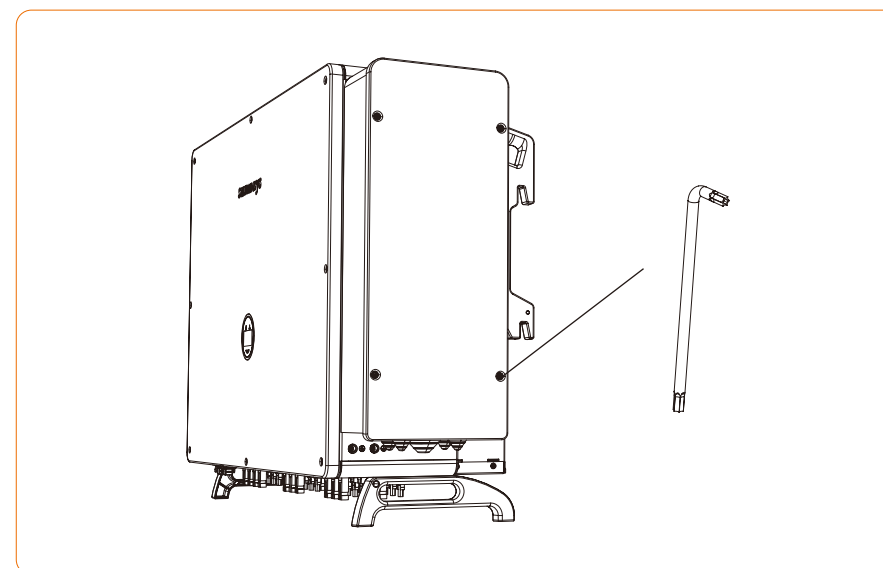
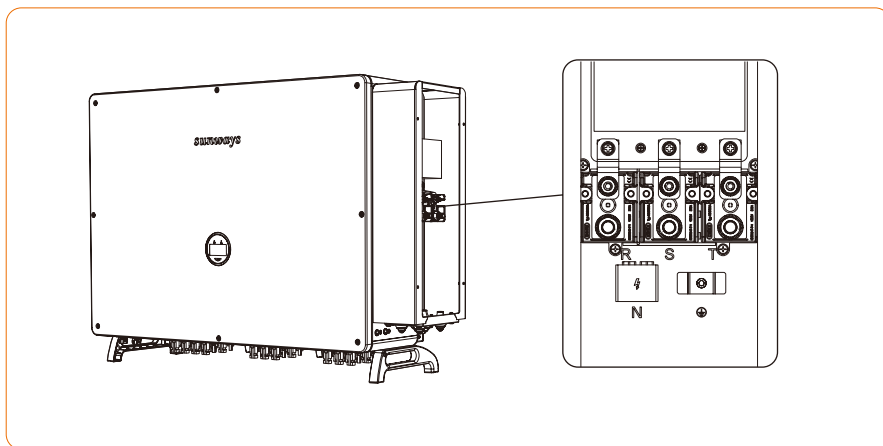

Figure 4-18
Figure 4-19
① Take out the ring spanner from the accessory box and remove the cover after unscrewing the screws on it, as shown in Figure 4-18 & Figure 4-19: